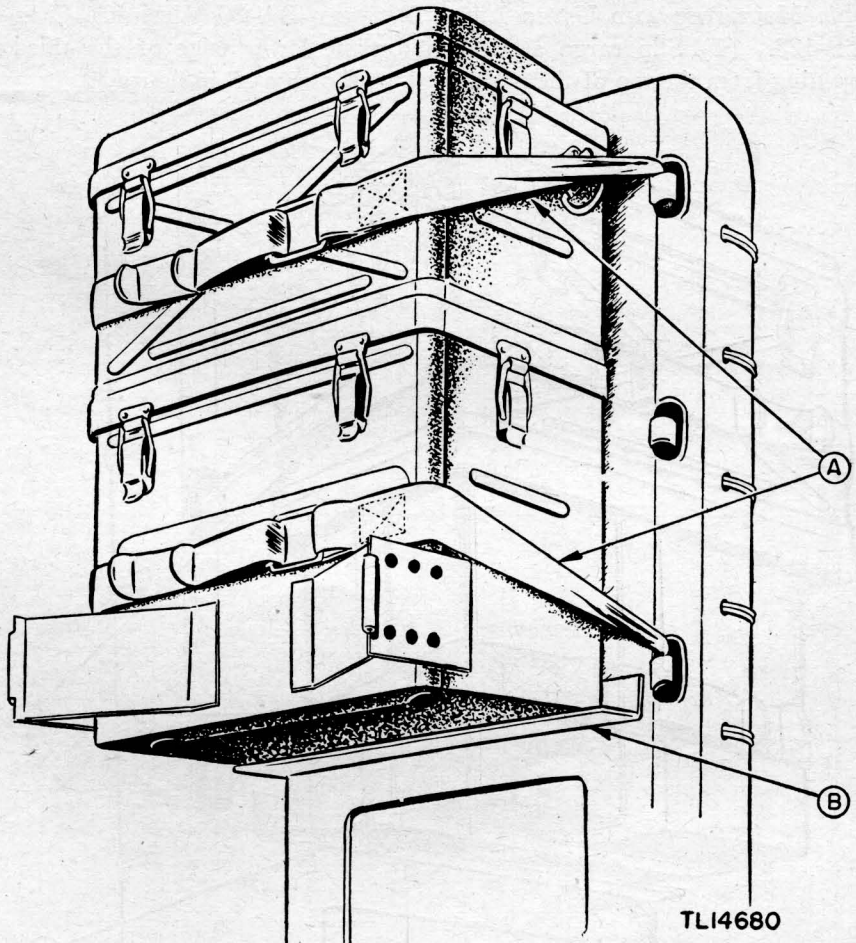

Figure 38. Complete Radio Set SCR-300-A, mounted to standard QM packboard, using quick release straps and cargo attachment.
*a. COMPLETE MOUNTING.* (1) Slip the cargo attachment on the lower edge of the third opening from the top of the packboard as shown at *B* in figure 38.
(2) Mount the complete radio set to the packboard and fasten securely with two quick release straps, as shown at *A* in figure 38.